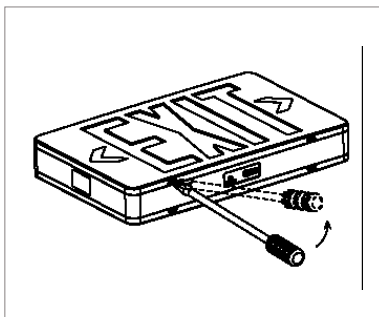

FIGURE 1
- A) Open front cover with flathead screwdriver (see Fig 1).
- B) Open the front cover with flathead screwdriver (see Fig 1).